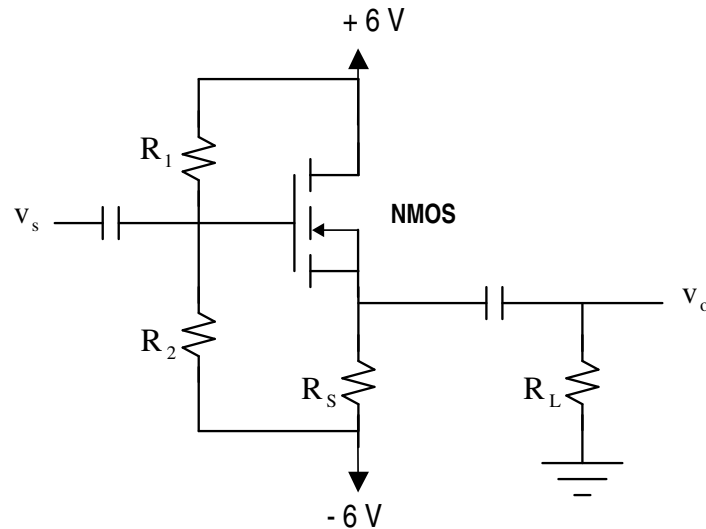

Figure P7.4
- 7.4 An NMOS **common-drain** amplifier circuit is given in **Figure P7.4** where $R_1 = 100\text{ k}\Omega$, $R_2 = 200\text{ k}\Omega$, $R_S = 2\text{ k}\Omega$, and $R_L = 0.5\text{ k}\Omega$. The parameters of the transistor are $K_N = 0.75\text{ mA/V}^2$ and $V_T = 2\text{ V}$. Determine the dc operating point and sketch the dc and ac load lines. Calculate the small-signal voltage, current, and power gains. What are the input and output resistances?
- 7.5 If the load resistance R_L is removed from the circuit in **Figure P7.4**, determine the voltage, current, and power gains for the modified circuit. What are the input and output resistances in this case?